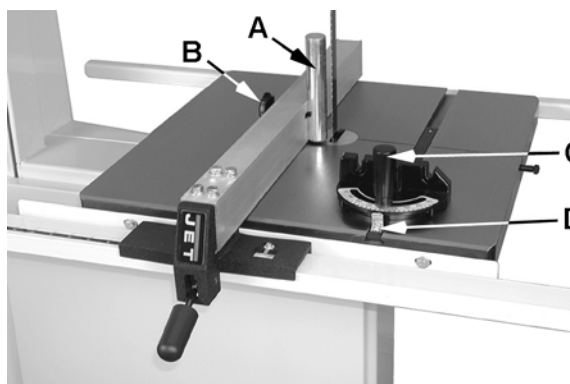

Figure 15
For resawing attach the *post* (A, Figure 15) to the fence with the *lock knob* (B, Figure 15). There is a slotted hole in the fence that will accommodate the resaw kit. Position the post so that it is centered with the front edge of the blade. The resaw guide will give you a taller, single point contact surface during resawing.
3. If the miter gauge is not square to the blade loosen the lock knob (C, Figure 15) and adjust to the proper setting. Tighten the lock knob.
4. If the pointer is not at 90 degrees, loosen the screw (D, Figure 15) holding the pointer and move the pointer to 90 degrees.